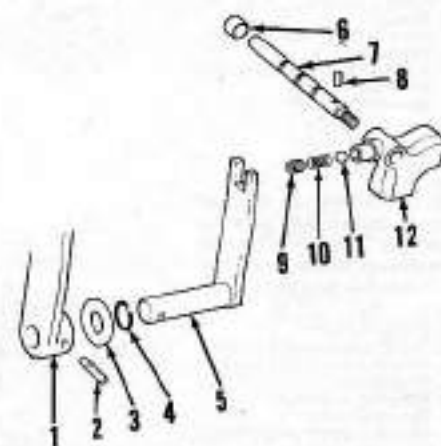

Fig. 191—Exploded view of typical pto shift linkage.
Remove pto housing assembly as outlined in paragraph 343. Remove draft sensor housing and metal gasket from top of pto housing. Remove safety shields and end plate (28—Fig. 187). Remove spacer (22) and shims (21) from output shaft (24). Note number and thickness of shims. Remove snap ring (1) and drive gear (2). Remove snap ring (12), shims (13) and idler gear assembly (14). Note number and thickness of shims (13). Remove special pin (8—Fig. 191) and using care not to lose detent ball (11) and spring (10), remove shaft (7). Remove fork (12) and spacer (6). Remove rear snap ring (11—Fig. 187) and drive input shaft (9) out of bearing (10). Remove inner snap ring (11), gear (8) and shaft (9). Drive output shaft (24) out of front bearing (16) and remove shaft (24). Remove output gear (17), split rings (19) and spacer or gear if so equipped.
351. The pto shift lever and linkage varies according to type of pto, model tractor and cab or platform equipped. Lever and shaft (5—Fig. 191) is common on most models and end play must be 0.127-0.254 mm (0.005-0.010 inch) and is adjusted by adding or removing shim (3). Always renew "O" ring (4) during service.